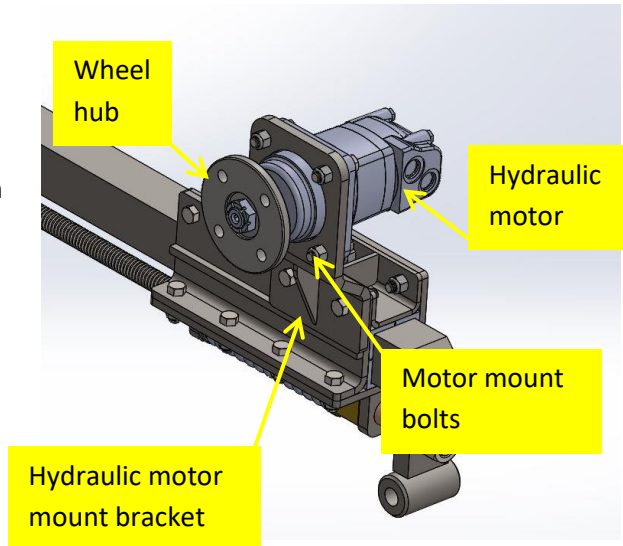

Figure 3
5. Remove the wheel from the hydraulic motor wheel hub and remove the wheel hub to gain access to the four (4) motor mount bolts and remove the bolts. **Figure 3**